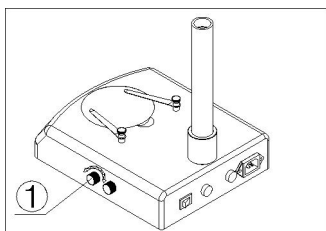

Fig.13
- 1) Turn the adjustable light knob① according to the sign marked on the base, along the clockwise the brightness will be added, otherwise it will be weakened. (Fig.13)